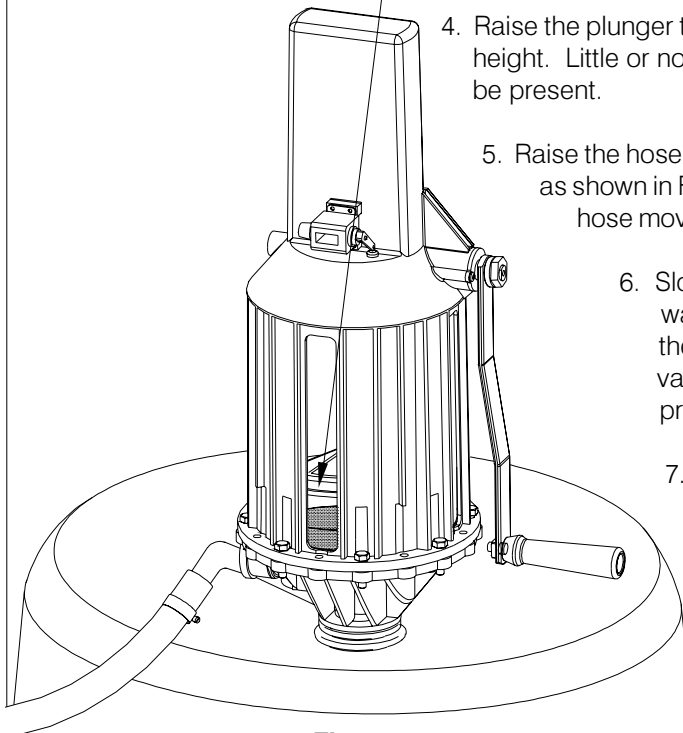

Figure 1
2. Raise the plunger until a small amount of fluid enters the chamber (Figure 1).